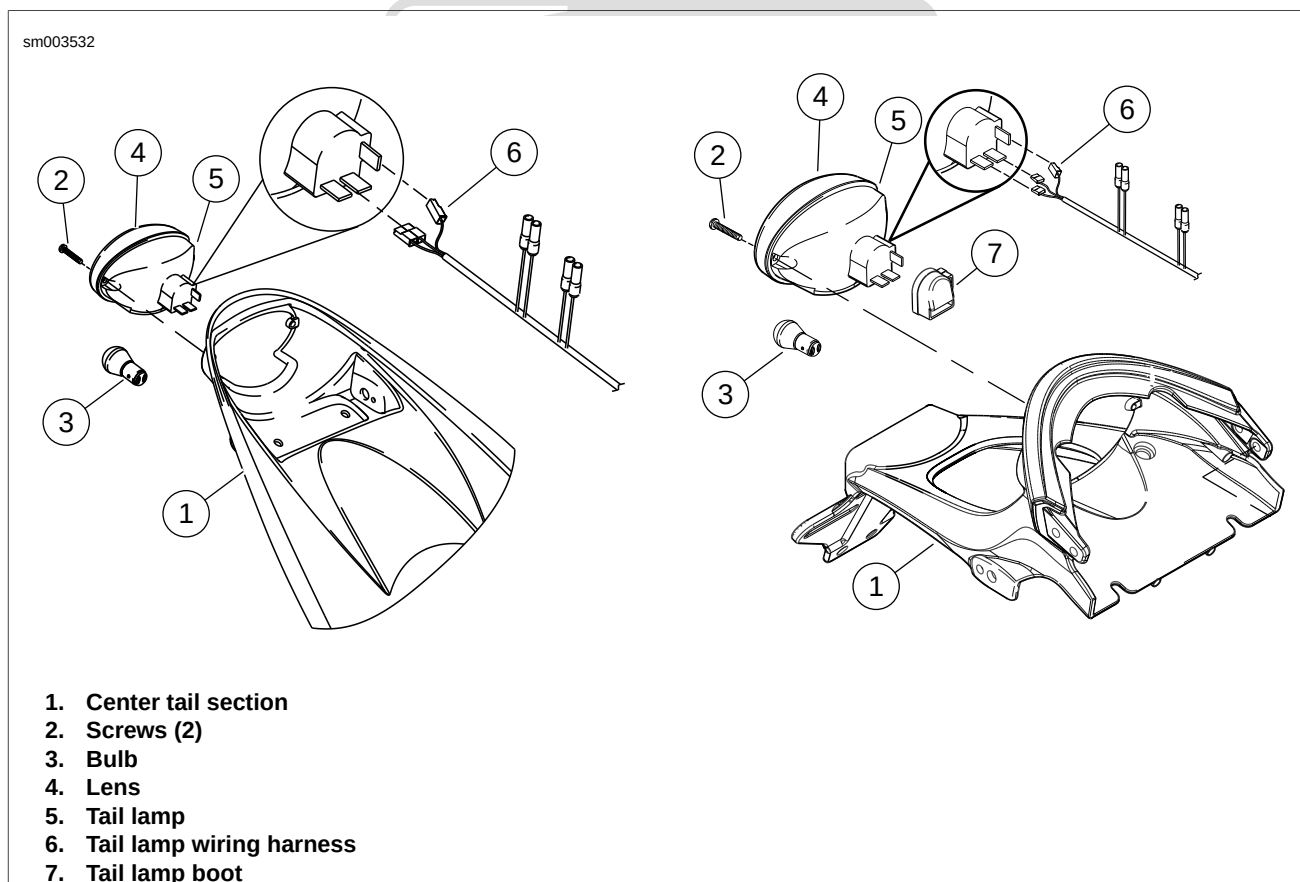

Figure 7-63. Tail Lamp Assembly: Firebolt/Lightning
2. See Figure 7-63. Remove two screws (2) to detach tail lamp lens (4) and tail lamp (5). If replacing bulb (3), turn counterclockwise and remove.
3. Disconnect tail lamp harness (6) connectors [93].
1. See Figure 7-63. Attach the tail lamp harness (6) connectors [93] and install boot.